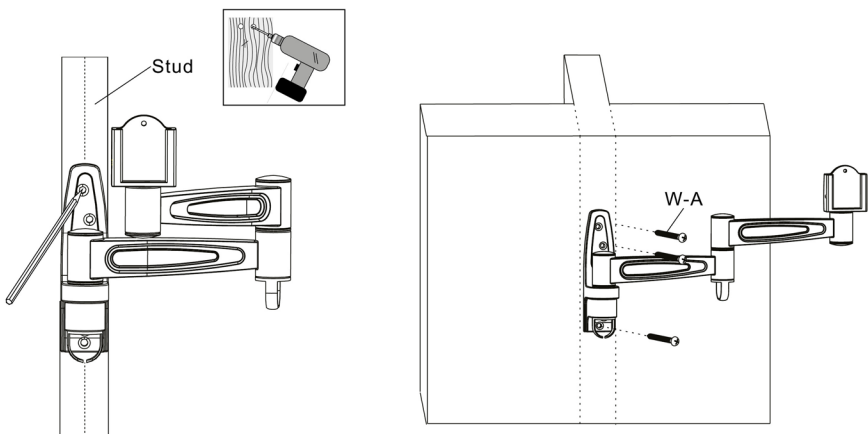

fig. 1.1
- Drill three 1/8" (3mm) dia. Holes 1.2" (30mm) deep. Make sure that the wall plate is level, secure it using three wood screws (W-A) as shown in fig. 1.1.